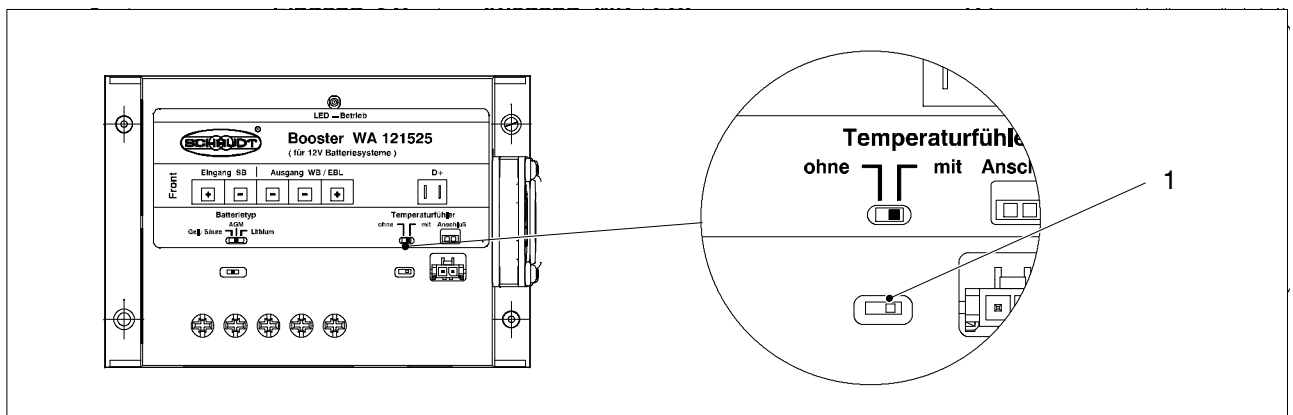

Fig. 7 Temperature sensor: Connection and setting
- ▶ Plug the connector into the booster (Figure 7, Pos. 1).
- ▶ Adjust the sliding switch on the booster (Figure 7, Pos. 2).
When the temperature sensor is connected: Sensor cable break.	Unplug the temperature sensor connector and move the switch (Figure 7, Pos. 2) into Position "without"; then contact Customer service.